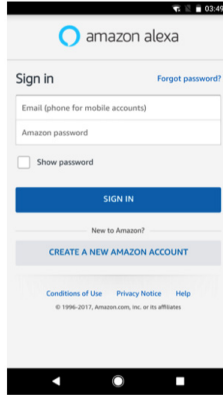

fig.2
- Register for an Amazon account, if you don't have one, or enter your Amazon account and password, then tap "sign in" (fig.2)